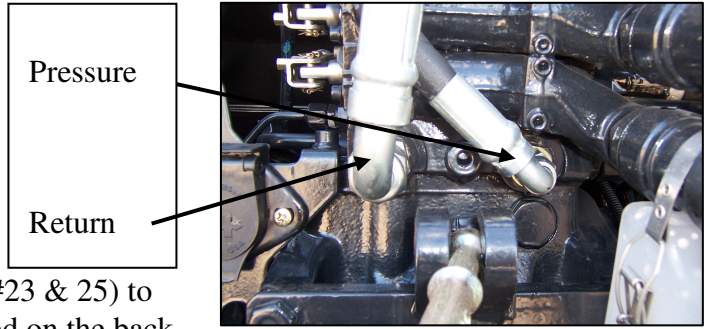

Fig 1-4
2. First locate the remotes kit to verify tractor. **See in Fig. 1-4.**
10. Route the 24" return and 30" pressure hoses (Part #23 & 25) to the proper ports on the loader valve already installed on the back of the tractor. Install two adapters (Part #16 & 17) for pressure and return on the tractor. **See in Fig. 1-4.**